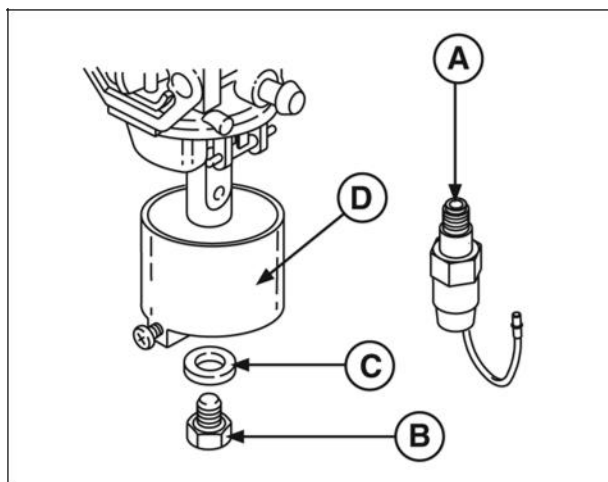

Figure 5
1. Remove anti-afterfire solenoid (A, Figure 5), bowl screw (B), washer (C), and carburetor bowl (D).